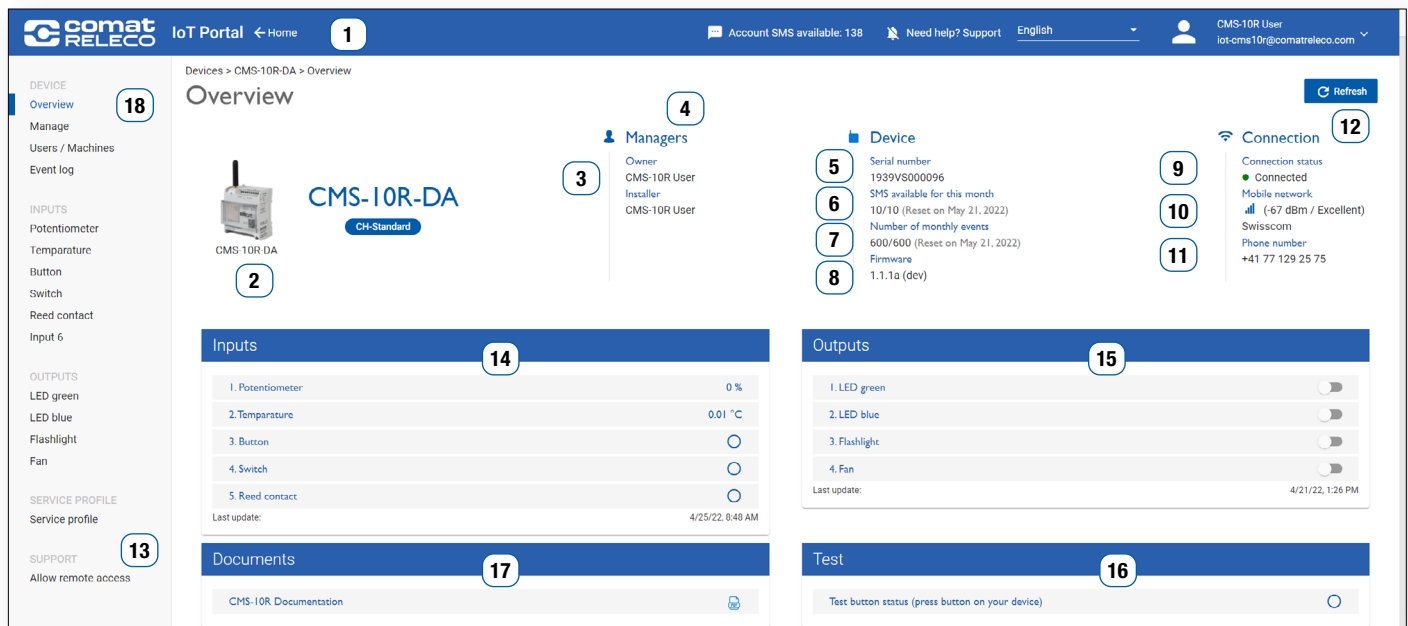

Figure 37
- Note that the number of events available each month is not exceeded (see Figure 37 (7)), as a large number of events are triggered, especially for short intervals.